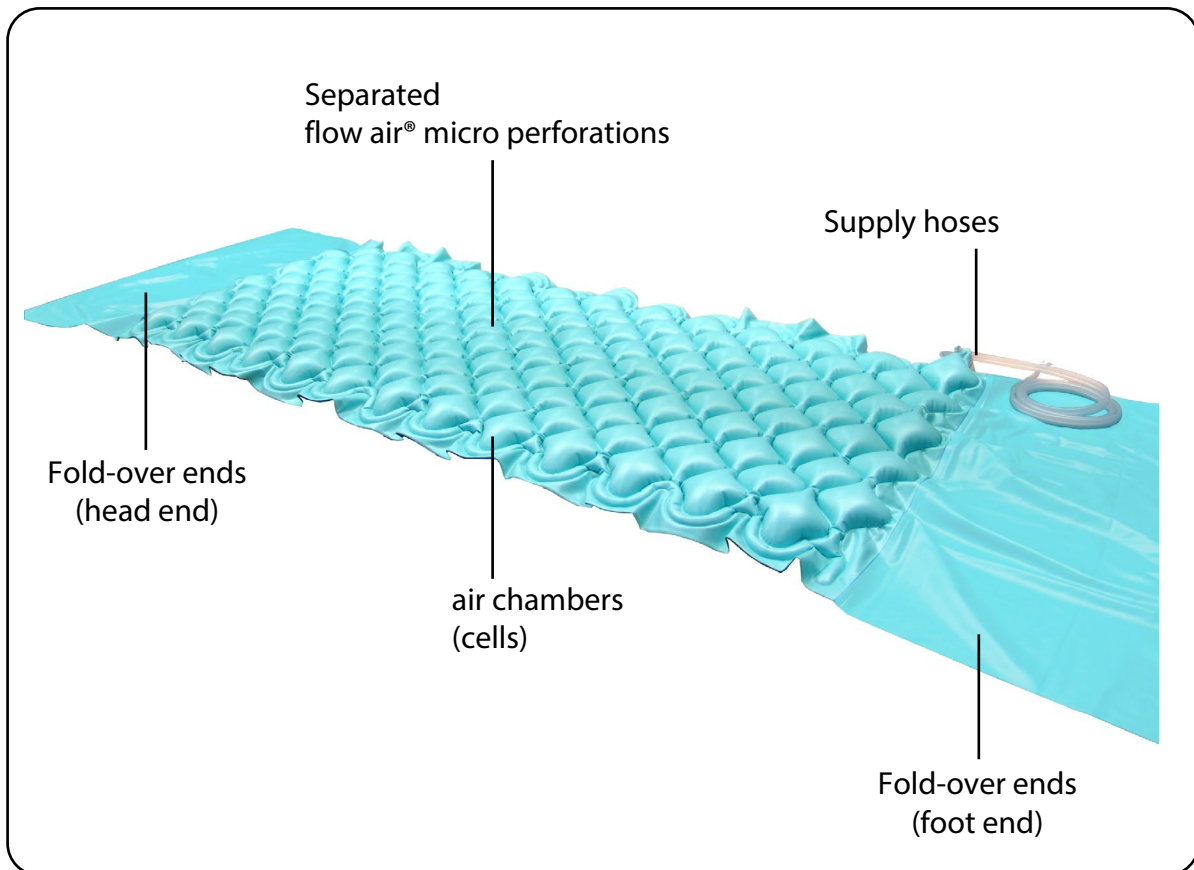

Fig. 5.03 - Small-cell alternating pressure mattress, top side
The alternating pressure mattress is fastened to the standard foam mattress or the foam underlay by means of fold-over ends that are located at the head and foot ends of the alternating pressure mattress (Fig. 5.03).
7. Fasten the alternating pressure mattress by tucking both fold-over ends at the head and foot ends (Fig. 5.03) under the standard foam mattress or the mattress underlay. Fixing the alternating pressure mattress is required in order to prevent slippage. In the case of beds with an adjustable reclining surface, all movement functions of the bed must be able to be performed without damaging the alternating pressure mattress. The supply hoses of the alternating pressure mattress must be placed so that they are not kinked, crushed or twisted.